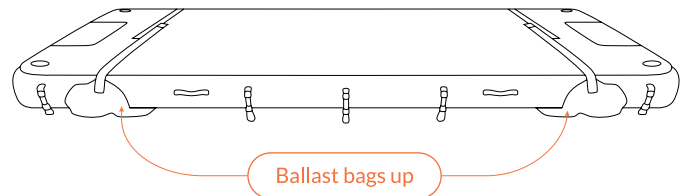

Fig 56 - Ballast bags empty and secured to the Platform
2. Ensure the Ballast Bags are empty, in the up position and with the strap held securely in place to the Velcro strips on top of the Platforms (Fig 56). See **To Uninstall Stage 2: Emptying Ballast Bags** for full instructions. This can be done on the main vessel or Jetty before launching, make sure to lift the Product up at the corresponding corner to manoeuvre the Ballast Bag into position.
3. Ensure that the Ballast Bag straps are secured their entire length to the Velcro strips on top of the Platform. This can be done by tucking the top end of the strap under the opposing ballast strap (Fig 56).